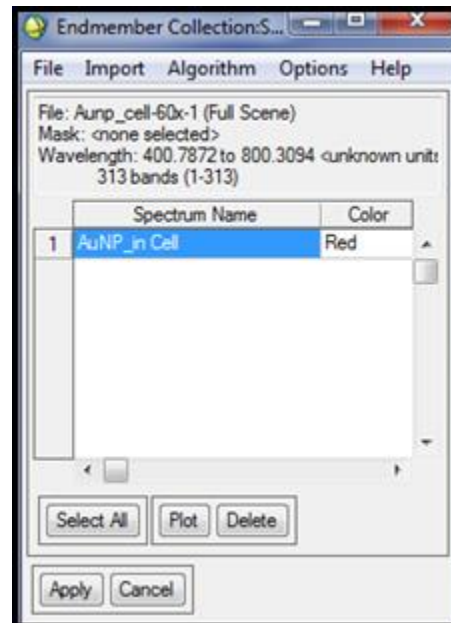

Figure 5.21. Endmember Collection dialog with entry from label dragged from plot
- From the Plot Window, drag the label AuNP_in cell to the Endmember Collection: SAM box. It is highlighted automatically in the list (Figure 5.21).